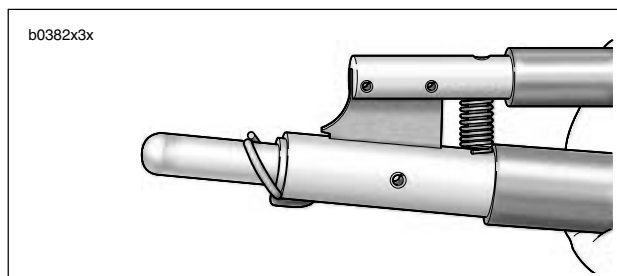

Figure 3-43. Aligning Retaining Ring
4. Install **new** piston pin retaining rings (1) using PISTON PIN RETAINING RING INSTALLER (2) (Part No. HD-34623B). Place **new** retaining ring on tool with gap pointing up. See Figure 3-43.